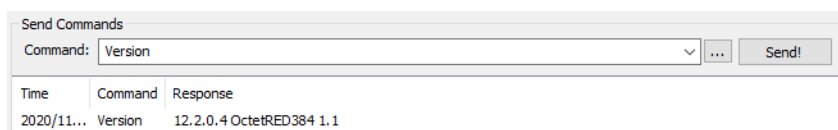

Figure A-3: Send Commands—Command Field
6. After a successful connection is established, send the default **Version** command (in the **Send Commands—Command** field) and then click **Send!** (Figure A-3).